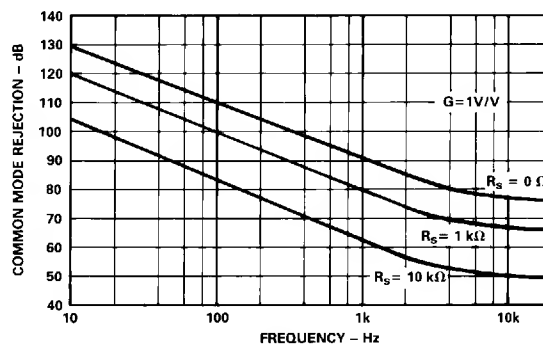

Figure 8. Typical Common Mode Rejection (dB) vs. Common Mode Signal Frequency (kHz) and Source Impedance Imbalance ( $k\Omega$ ) for a Gain of 1 V/V
**Common Mode Rejection.** Figures 8 and 9 illustrate the typical common mode rejection, expressed in dB, of the AD208 as a function of the common mode signal frequency (kHz) and source impedance imbalance ( $k\Omega$ ) for gains of 1 V/V and 1,000 V/V, respectively.